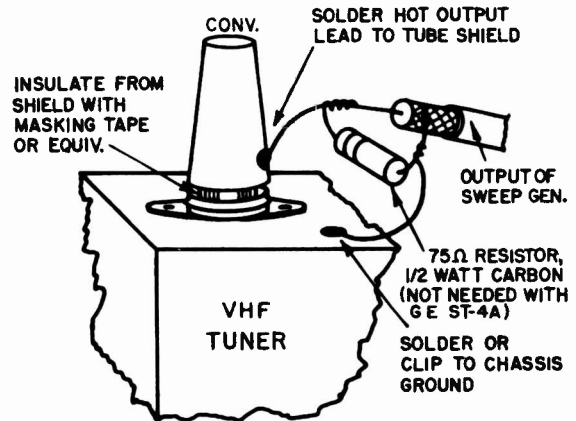

FIGURE 9. I-F SWEEP JIG
2. Connect sweep generator to capacity type jig shown in Figure 9. If General Electric sweep equipment is used, the indicated resistor should be omitted.